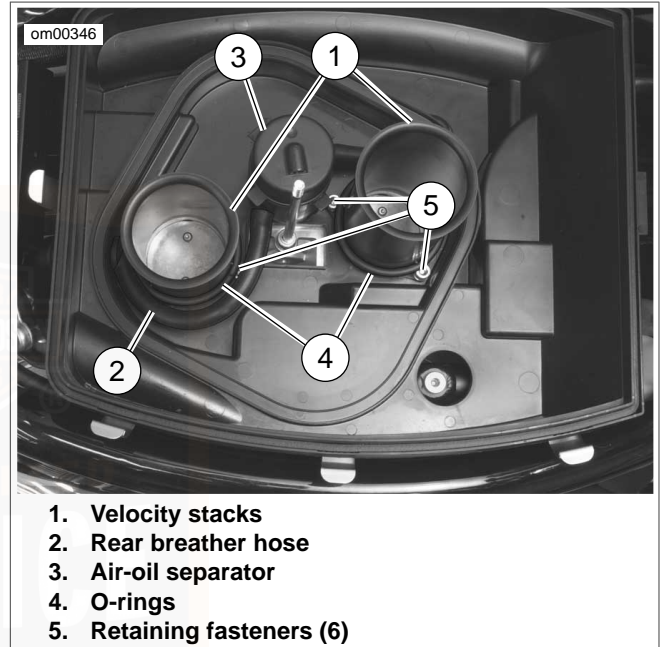

Figure 57. Velocity Stacks
4. See Figure 57. Disconnect rear breather hose (2).
5. Slide the o-ring (4) up each velocity stack (1) body to reveal the three retaining fasteners (5). Unscrew the fasteners and lift off the velocity stacks.
13. See Figure 57. Insert rear breather hose through hole in rear of tray. Pull until hose seals properly.